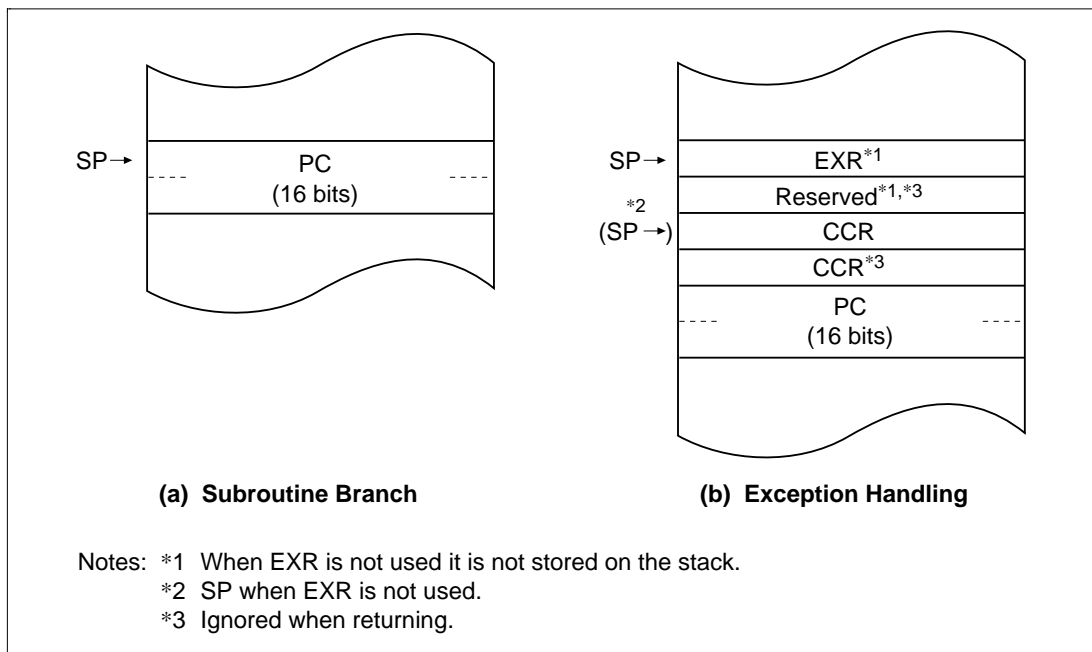

Figure 2-3 Stack Structure in Normal Mode
Stack Structure: When the program counter (PC) is pushed onto the stack in a subroutine call, and the PC, condition-code register (CCR), and extended control register (EXR) are pushed onto the stack in exception handling, they are stored as shown in figure 2-3. When EXR is invalid, it is not pushed onto the stack. For details, see section 4, Exception Handling.